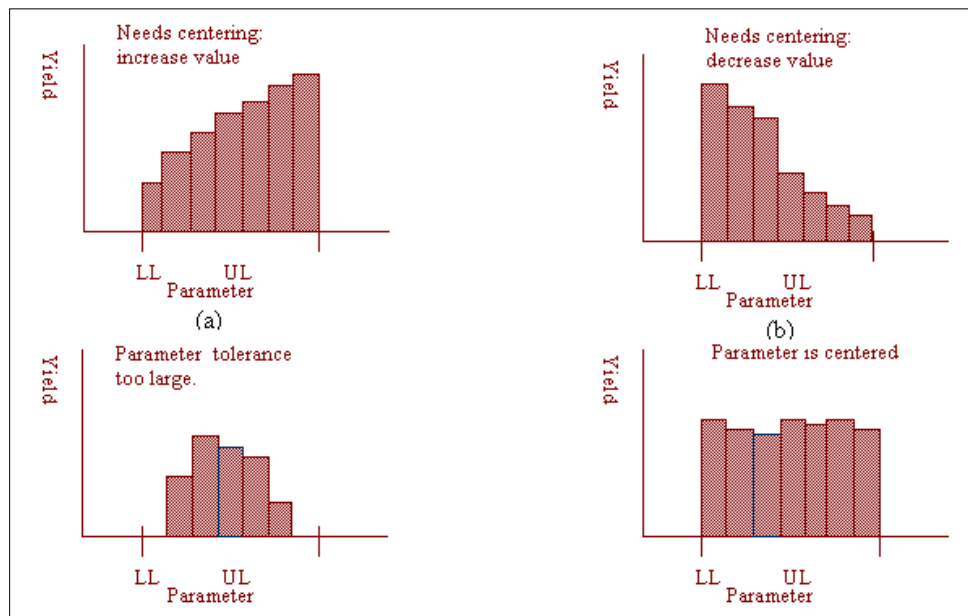

Figure 6-3. How to Use the Yield Sensitivity Histogram
If the YSH is essentially flat, then the parameter over the range from the lower limit (LL) to the upper limit (UL), does not affect the amplifier's yield. This is shown in the bottom right graph in Figure 6-3. In this case we say the parameter is centered. It may not be necessary to include this parameter in yield optimization, as it (on its present range) has no effect on yield. It might also be possible to increase the tolerance of this parameter without decreasing the yield. We say that this parameter is *centered*.
If the YSH slopes, as in the top two graphs in Figure 6-3, the parameter affects the yield value, and we say the parameter is *not centered*. Moving the parameter's nominal value to a value of higher yield may increase the amplifier's overall yield.
If the YSH is high in the center and lower on the extremes, like the lower left graph in Figure 6-3, the upper and lower limits (UL and LL) must be brought in to decrease the statistical extent of the parameter. The extent of a parameter's variation is its *tolerance*, and in this case the parameter tolerance should be reduced.